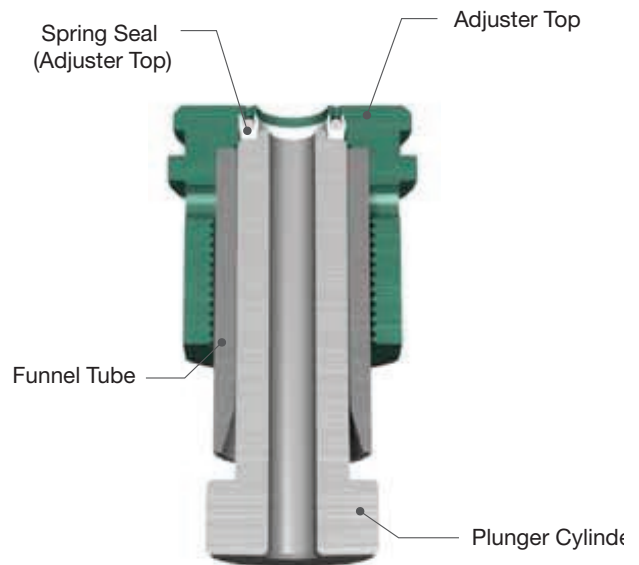

Figure 23: Plunger Cylinder
- (vii) Push down on Plunger cylinder to insert Spring Seal (Adjuster Top) into Adjuster Top as shown in Figure 23.
(vii) Push down on Plunger cylinder to insert Spring Seal (Adjuster Top) into Adjuster Top as shown in Figure 23.